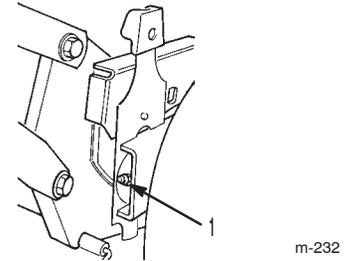

Figure 23
- Wipe the grease fittings with a clean rag (Fig. 23).
- Install a grease gun onto the fitting and gently apply two or three pumps of #2 multi-purpose lithium base grease (Fig. 23).